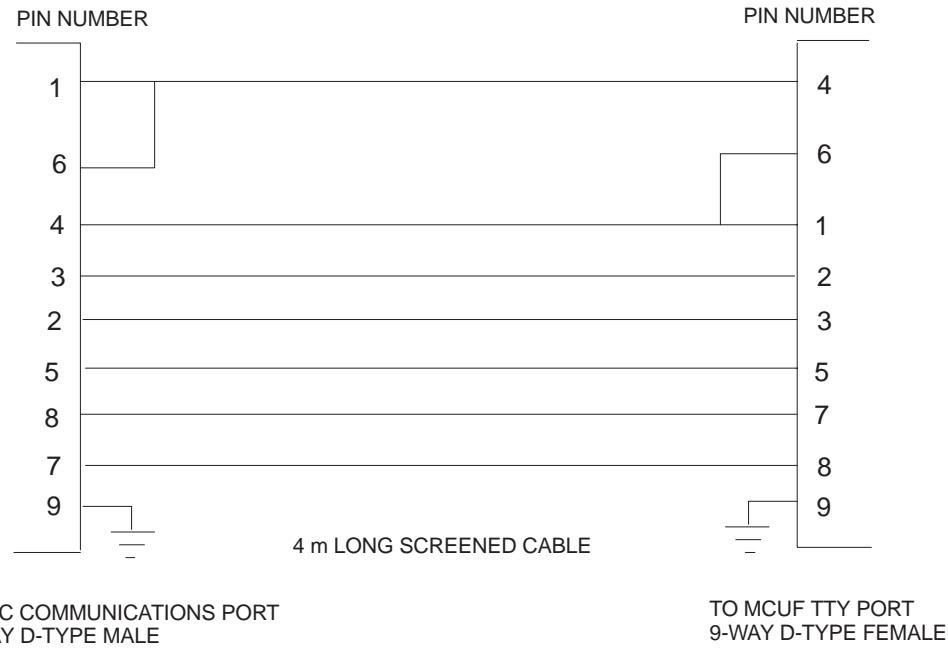

Figure 7-1 9-way to 9-way PC to MCUF cable pin connections
Figure 7-1 shows the pin connections for the personal computer (PC) to MCUF test cable. These are standard null modem pin connections.